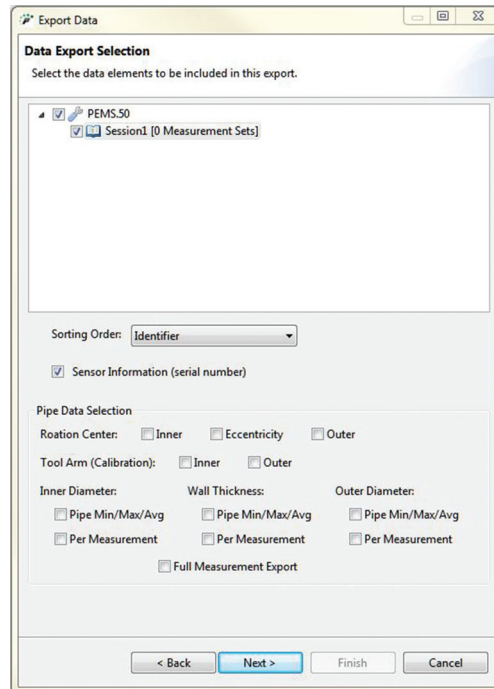

Figure 4-7 - Sensor Information Selection
6. Select the Sensor Information (serial number) box so that the box is checked on. This box should always have check mark on. See Figure 4-7.